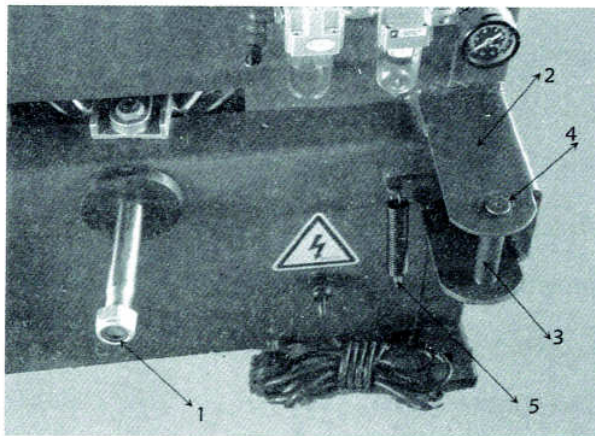

Fig 4-5
4.2.8 Unscrew the lock nut (1) at the front end of the bead breaker cylinder piston rod. Use the spring tongs to remove the retaining ring on the bead breaker arm pin shaft. Remove the pin shaft (3) and hang the spring (5) as shown in Fig 4-5.